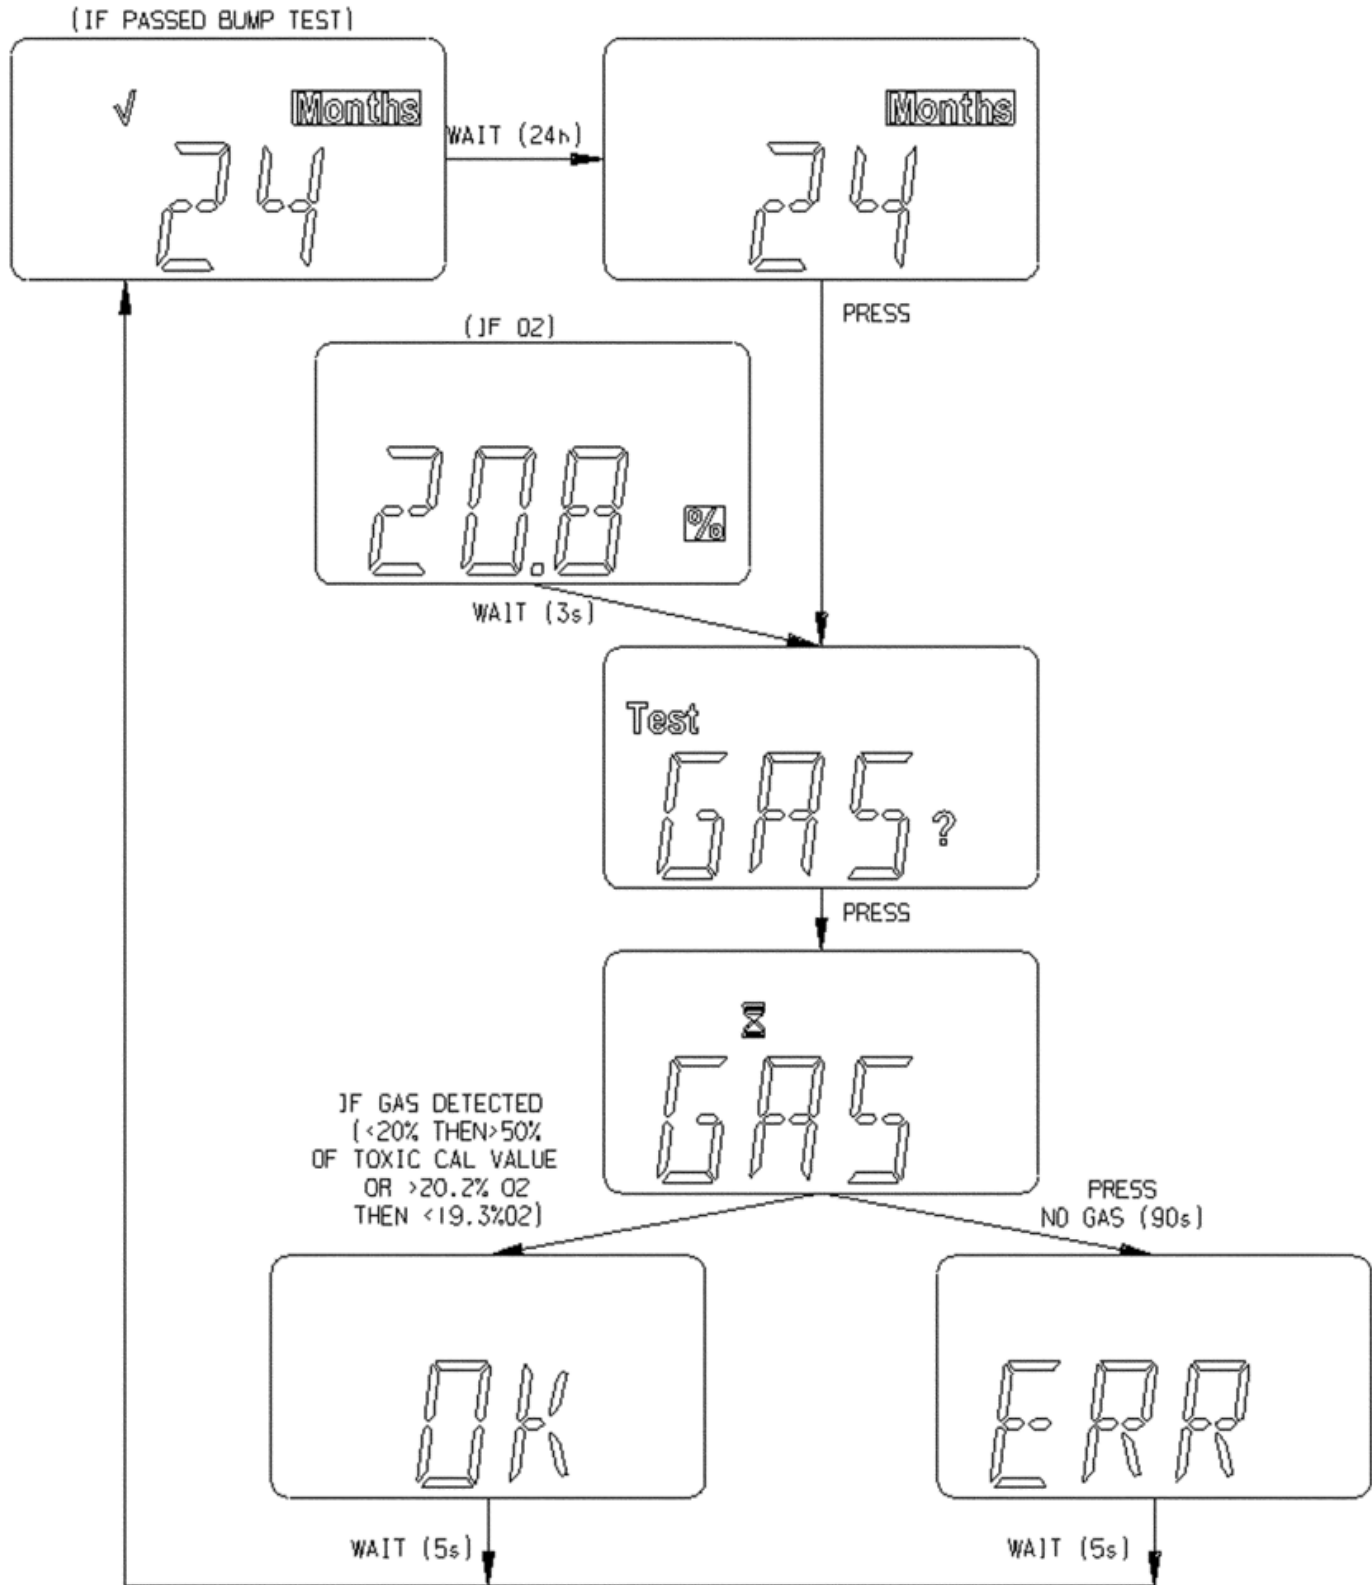

Figure 6 Bump Test Flow Chart
**NOTE:** See Figure 6 for details.